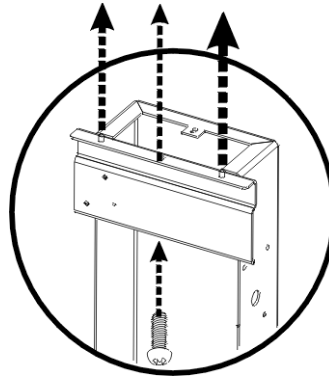

Fig. 1-5. Stand alignment
20. Align the two pins on each stand leg with the holes in printer (see Fig. 1-5).
21. Align center hole on each leg (between pins) with center hole in printer (see Fig. 1-5).
24. Attach the printer to the stand with one silver #3 screw in the center hole on each leg (see Fig. 1-5). **Tighten all stand screws securely.**